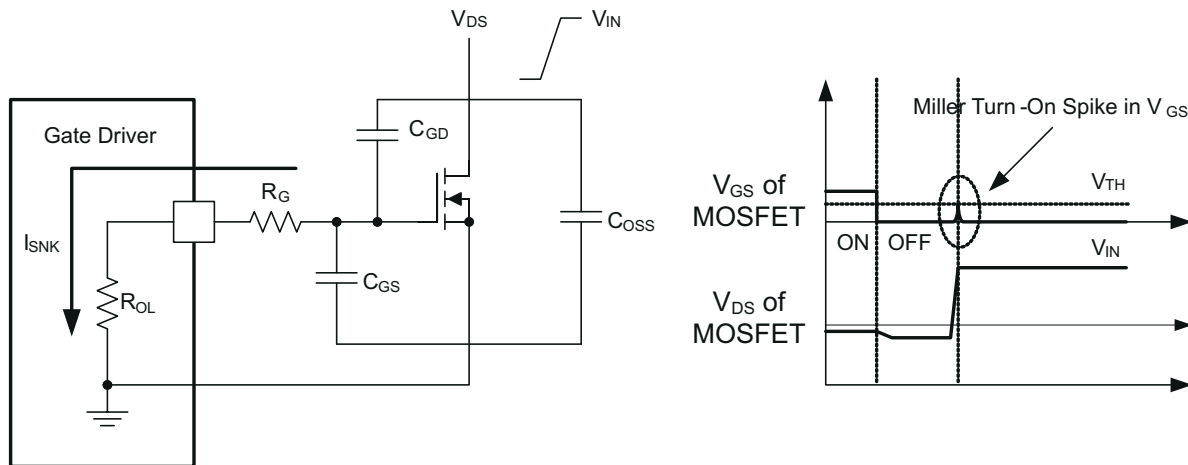

Figure 7-3. Low Pull-Down Impedance in UCC27332-Q1 (Output Stage Mitigates Miller Turnon Effect)
An example of a situation where Miller turnon is a concern is synchronous rectification (SR). In SR application, the dV/dt occurs on MOSFET drain when the MOSFET is already held in OFF state by the gate driver. The current charging the C_{GD} Miller capacitance during this high dV/dt is shunted by the pulldown stage of the driver. If the pulldown impedance is not low enough then a voltage spike can result in the V_{GS} of the MOSFET, which can result in spurious turnon. This phenomenon is illustrated in Figure 7-3.